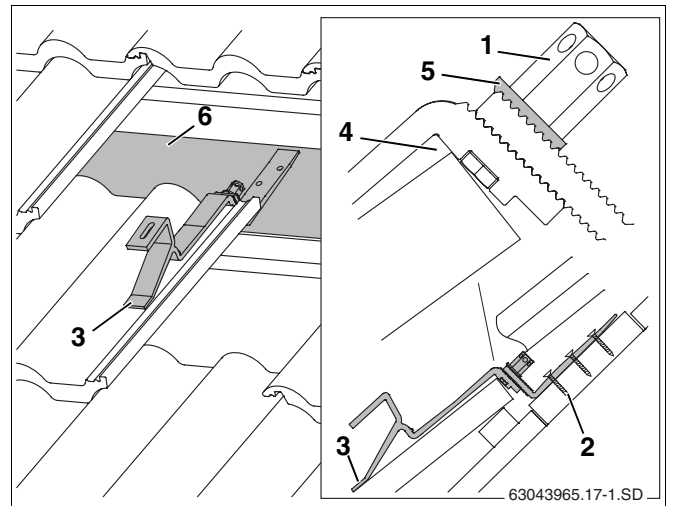

Fig. 14 Roof hook fitted (some tiles have been removed for a better view)
- ▶ Lay front brace onto the tile so that when subjected to a load it lies in a tile trough (Fig. 14, **Item 3**).
The roof hook must have some clearance along the upper edge of the tile (Fig. 14, **Item 4**). Adjust the top of the tile if necessary.
- ▶ Push the lower part of the roof hook down until it lies on the joist or on the boards (Fig. 14, **Item 6**).
The serrated washer (Fig. 14, **Item 5**) must grip the teeth on the lower part of the roof hook.
- ▶ Tighten the long hexagon nut (Fig. 14, **Item 1**). To do this, insert the size 5 Allen key into the hole in the hexagon nut and turn.
- ▶ Using suitable screws, fasten the lower part of the roof hook into the first (Fig. 14, **Item 2**) and second holes (at least) of the joist.